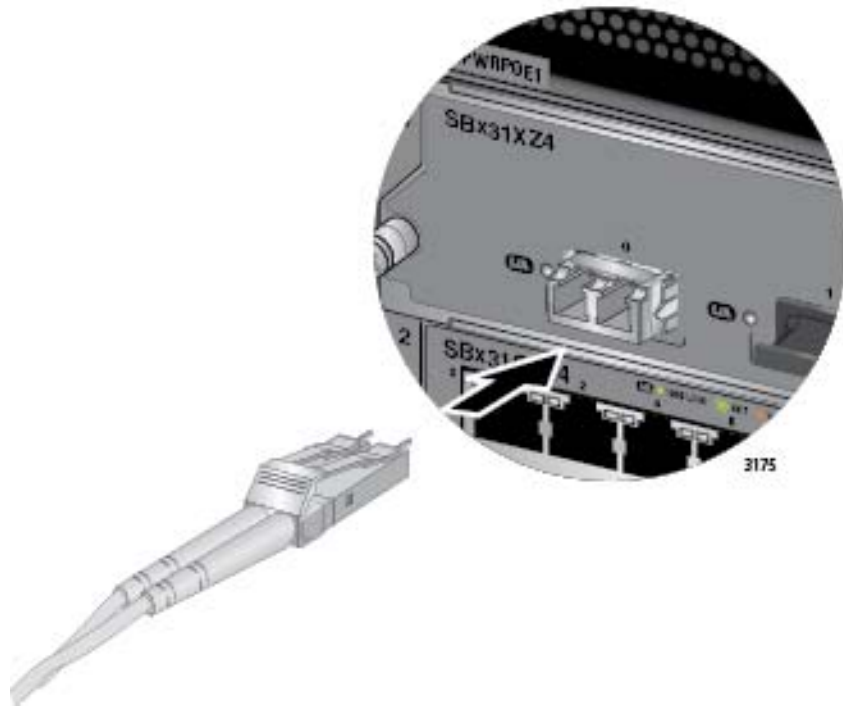

Figure 111. Attaching a Fiber Optic Cable to an XFP Transceiver in the AT-SBx31XZ4 Line Card
6. Connect the fiber optic cable to the port on the transceiver, as shown in Figure 111 on page 171. The connector should snap into the port.